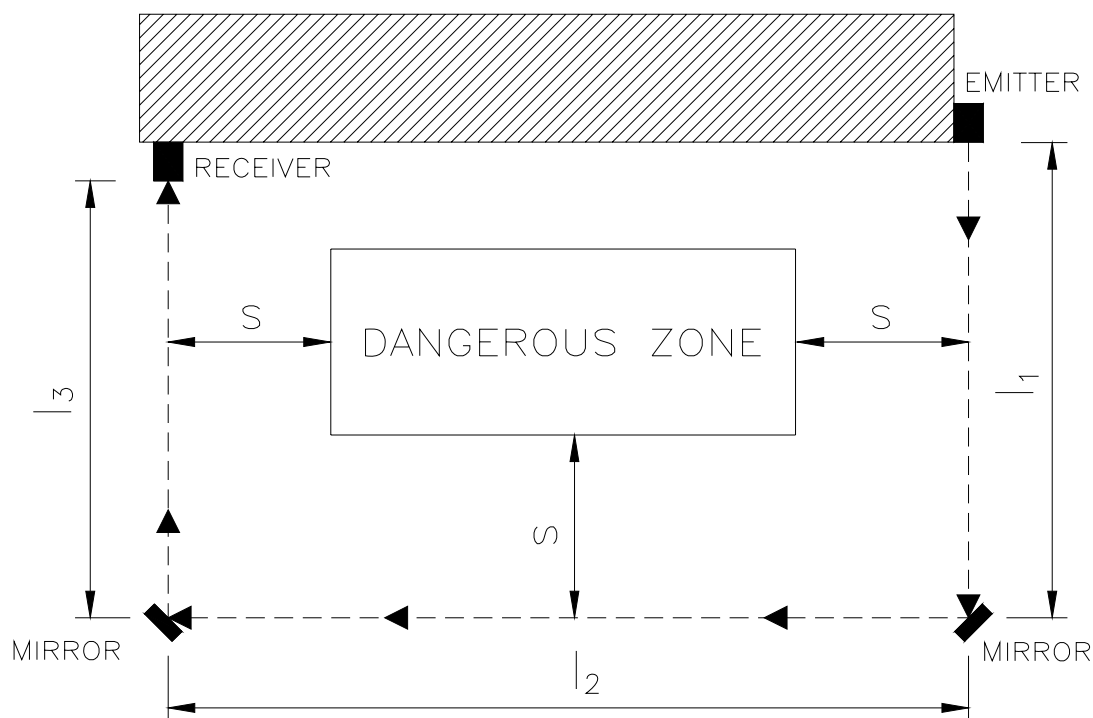

Figure 7 – Deflecting mirrors
- Position the mirrors so as to comply with the minimum safety distance S (Figure 7) on each side of access to the dangerous area.